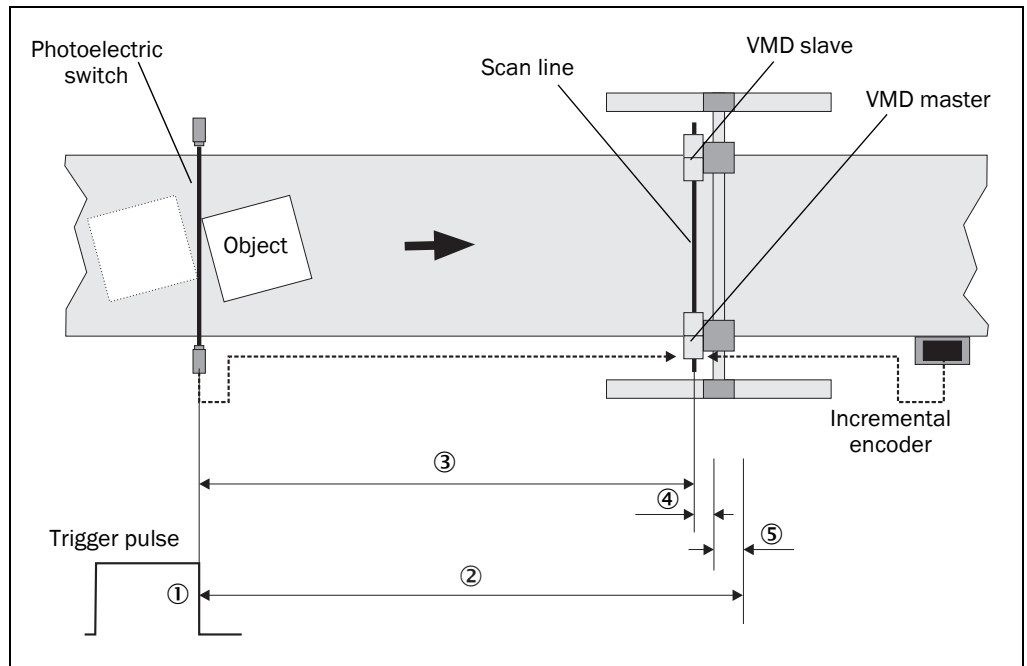

Fig. 7: Laser off distance
A laser off distance ② is configured in SOPAS (see Fig. 7). This distance is formed from the addition of the distance from the photoelectric switch to the scan line ③, the defined minimum object gap (default 30 mm (1.81 in)) ④ and a safety supplement (200 mm (7.87 in) recommended) ⑤.